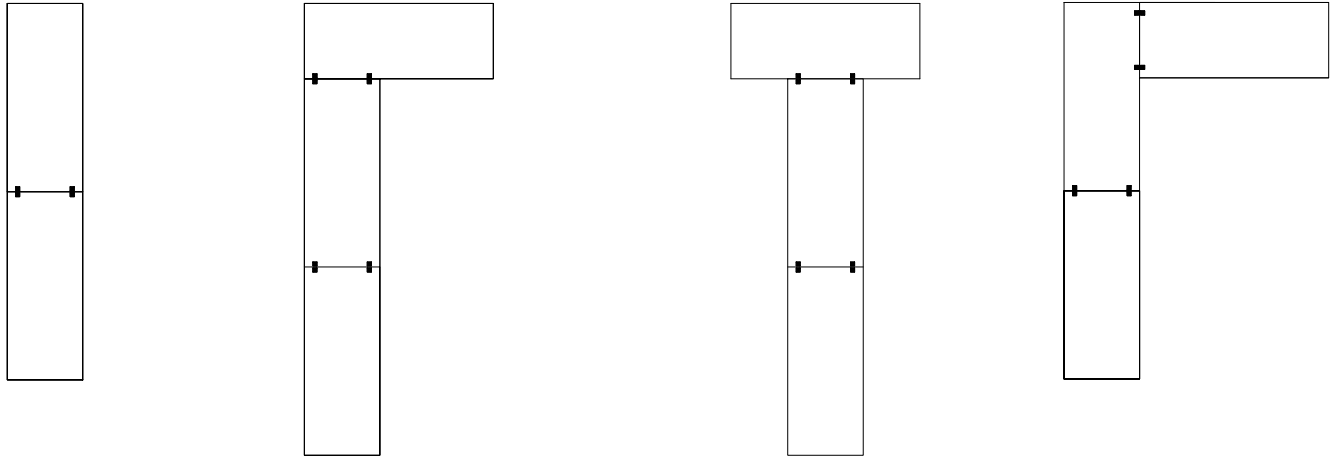

Figure 3-1
2. Lay out the general shape of the dock system to fit your needs. Refer to Figure 3-1 for some typical configurations. All floating dock sections are capable of any of the below configurations with the use of hinge assemblies.